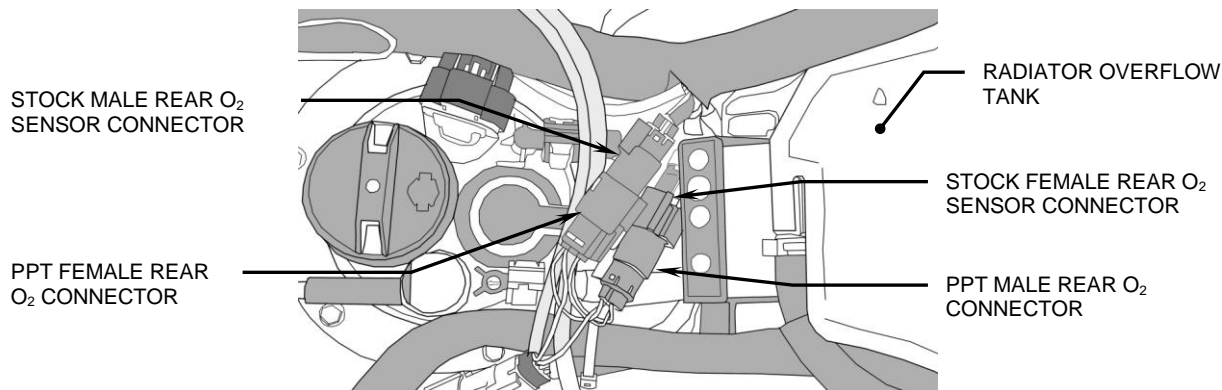

FIGURE 3
4. Locate the rear oxygen sensor connector and follow the harness up to the under-seat area behind the radiator overflow tank. Pull the stock connectors up from behind the overflow tank and disconnect, see Figure 3. The shorter PPT oxygen sensor harness with male and female connectors will plug into each of these stock male and female connectors. Tuck the connectors back underneath the bracket behind the radiator overflow tank.